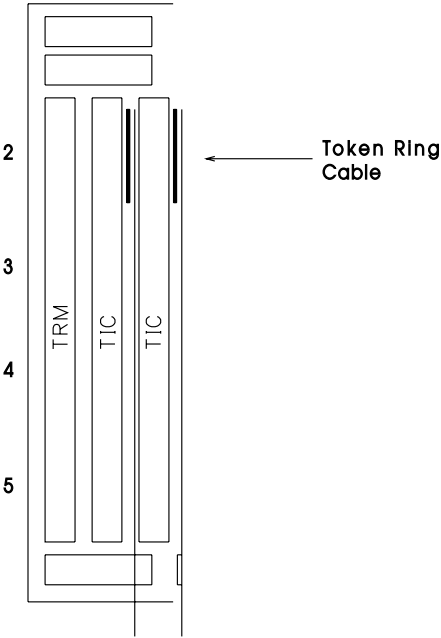
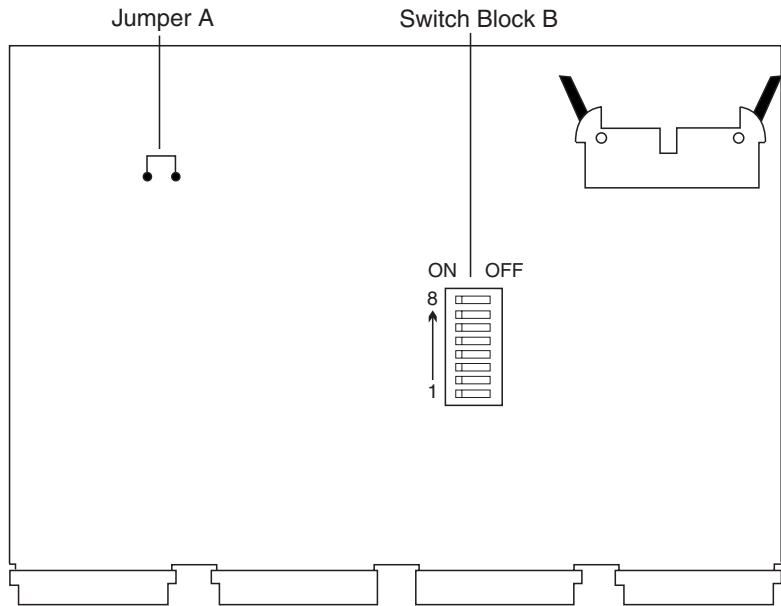

Figure 4-56. TIC and TRM
Figure 4-57. Location of Jumper A and Switch Block B on the TIC Card
Refer to Figure 4-56 on page 4-83 and Figure 4-57 on page 4-83.
6. If you were sent to exchange the TRM, exchange it now. Refer to Figure 4-56 on page 4-83.